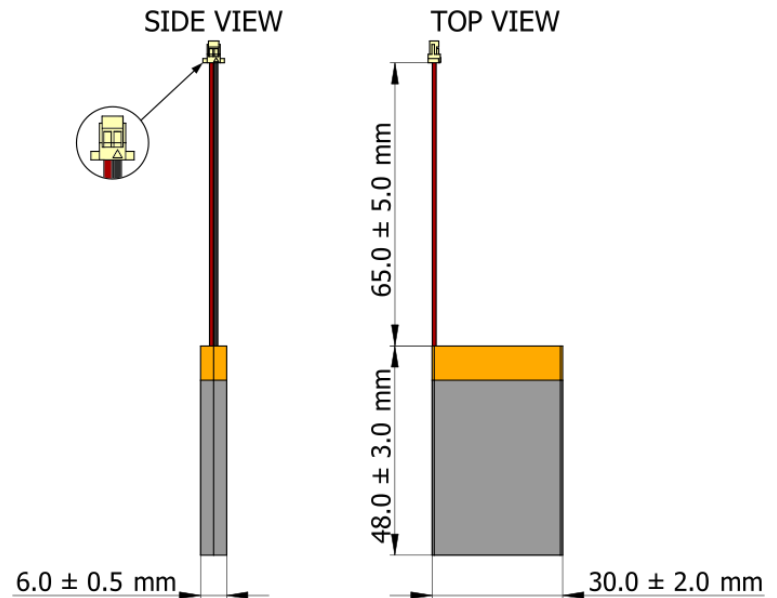

Figure 1: 850mAh Battery Drawing & Dimensions
1.1 Outline Dimensions: See attached drawing, Figure 1, for dimensions.